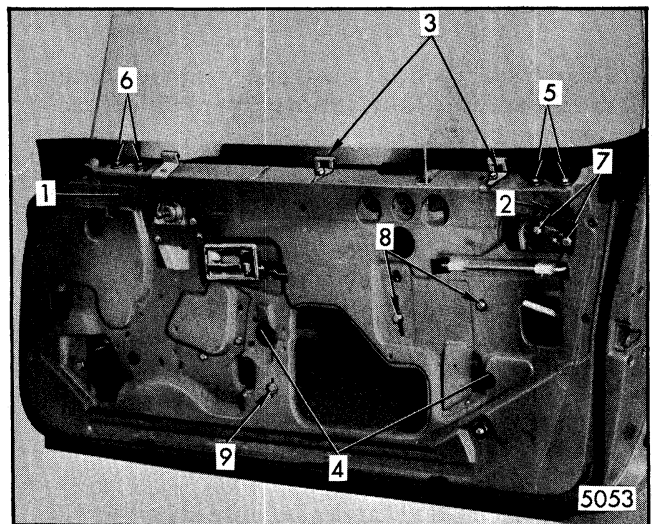
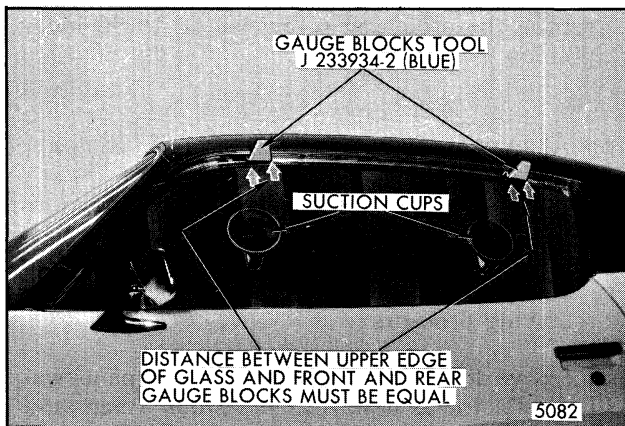
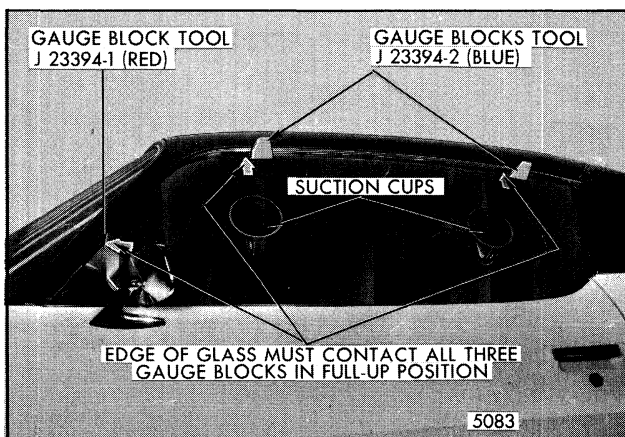

Fig. 5-117-Window Removal and Adjustment - "F" Styles
Fig. 5-119-Door Window - Rotated ("Cocked") Glass Alignment - "F" Styles
Fig. 5-120-Door Window - Fore and Aft Alignment - "F" Styles
NOTE: On "6CB69" styles because glass must be adjusted within a "fixed" opening, install glass suction cups on interior surface of glass (as similarly used in Fig. 5-119 for "F" styles), to enable adjuster to shift glass when making adjustments with door in a closed position.
1. **WINDOW NOT PARALLEL WITH SIDE ROOF RAIL WEATHERSTRIP** - A rotated window condition (glass cocked in opening) can be corrected by loosening front and rear up-travel stops ("1" and "2", Fig. 5-117) and inner panel cam screws ("8", Fig. 5-117) and raising or lowering front edge of glass in relation to rear edge of glass as required. Then tighten inner
2. **WINDOW TOO FAR INBOARD OR OUTBOARD ALONG UPPER EDGE** - Loosen upper ends of front and rear guides ("5" and "6", Fig. 5-117) and glass belt trim support retainers ("3", Fig. 5-117) and position guide inboard or outboard as required. Outboard adjustment of the guide moves the upper edge of the glass inboard. Conversely, inboard adjustment moves the upper edge of the glass outboard. With glass in a full-up position, position trim support retainers against inner surface of glass and tighten attaching screws. Torque all previously loosened hardware attachment components to 60 to 90 inch-pounds. Make sure that when glass is cycled, it does not come in contact with the blow-out clip.
3. **WINDOW TOO HIGH OR LOW IN UP POSITION** - Loosen front and rear up-travel stops ("1" and "2", Fig. 5-117) and operate window to desired position to establish proper glass to side roof rail weatherstrip contact. Position up-travel stops to contact stops on glass and torque up-travel stop screws to 60 to 90 inch-pounds.
4. **WINDOW TOO HIGH OR LOW IN DOWN POSITION** - Loosen down-travel bumper support ("9", Fig. 5-117) and lower or raise window to desired full-down glass height. Then position bumper support against lower edge of glass and torque attaching screw to 60 to 90 inch-pounds.
5. **WINDOW TOO FAR FORWARD OR REARWARD** - Loosen upper end of rear guide ("7", Fig. 5-117) and reposition glass as necessary. Because the roller assembly (bellcrank) which attaches to the glass at the front pivots, the front guide does not have to be adjusted during fore and aft window alignment. Torque guide attachments to 60 to 90 inch-pounds.
6. **WINDOW MECHANISM BINDS WHEN OPERATING** - Ease of window operation and window stability depends a great extent on the adjustment of the window belt trim support retainers at the beltline ("3", Fig. 5-117). The support retainers should contact the glass throughout the full cycle of the window. However, in some cases due to the slight variations in glass contour, the strip may lose contact with the glass halfway through the cycle. This is permissible provided it does not result in loose glass or restrict ease of window operation. After the belt trim support retainers have been adjusted,
3. With glass in a partially down position, install gauge blocks, tool J-23394-2 (blue) or equivalent, into side roof rail weatherstrip retainer above upper front and rear corners of the glass as shown in Figure 5-119. Then, install glass suction cups on interior surface of glass (Fig. 5-119) to enable adjuster to shift glass when making adjustments with door in a closed position.
NOTE: When installing gauge blocks (blue) or equivalent into upper retainer on "F" styles, handle portion of blocks must protrude outboard (Fig. 5-119). Also, grooves on sides of blocks must be fully engaged with side roof rail weatherstrip retainer.
4. Working from inside body, with door in a closed position, loosen front and rear up-travel stops ("1" and "2", Fig. 5-117) and belt trim support retainers ("3", Fig. 5-117).
5. Raise door window to approximately 1" from full-up position as illustrated in Figure 5-119. If distance (space) between upper edge of glass and front and rear gauge blocks is equal (as shown in Fig. 5-119), proceed with step 6. If distance (space) between upper edge of glass and both upper gauge blocks is not equal loosen inner panel cam attaching screws ("8", Fig. 5-117) and adjust as necessary.
6. Lower glass and install gauge block, tool J-23394-1 (red), or equivalent into the windshield pillar retainer slightly above the beltline (Fig. 5-120).
If upper and forward edge of glass contacts all three gauge blocks at the same time (as shown in Fig. 5-120), proceed with step 7. If upper and forward edge does not contact all three gauge blocks simultaneously, loosen fore and aft adjustment on rear guide ("7", Fig. 5-117) and move glass forward or rearward until edge of glass contacts all three gauge blocks in full-up position.
7. Completely loosen upper and lower ends of front and rear guides ("5" and "6", Fig. 5-117). Apply firm outboard pressure against upper end of front guide to remove slack in system and to hold upper inner edge of the glass inboard against outer edge of tab on gauge block. Then tighten front guide upper, then lower attaching screws. Repeat operation with rear guide. Guides will now be coordinated to plane of glass.
8. With glass in full-up position against gauge blocks, tighten up-travel stops ("1" and "2", Fig. 5-117) and adjust belt trim support retainers ("3", Fig. 5-117) outboard for light contact.
2. Remove front and rear up-travel stops ("1" and "2", Fig. 5-117).
3. Loosen front and rear belt trim support retainers ("3", Fig. 5-117).
4. With window in three-quarter-down position, remove lower sash channel cam to glass attaching nuts ("4", Fig. 5-117). Remove window by lifting straight up and aligning rollers with notches provided in the door inner panel.